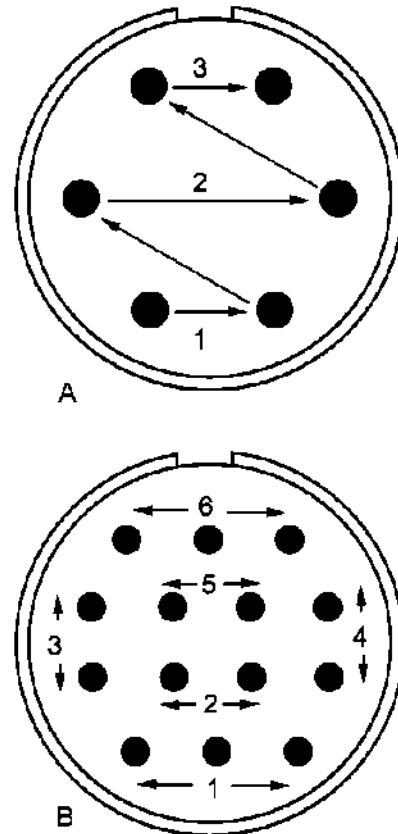

Figure 10-12 Connector Soldering Sequence
21. Follow a rigid sequence in soldering wires to a connector. This helps avoid errors in wiring and also prevents burning or scorching the insulation of wires already soldered. Two useful sequences are shown in Figure 10-12.
- a. The soldering of the connector in Figure 10-12 detail "A" is started at the right or left lower edge, depending on whether the technician is left or right-handed, and follows the bottom row across. The row above is next and is done in the same direction as the bottom row. This will permit the insert to cool between soldering operation. The operation is repeated for each row in sequence until all contacts are soldered.
- b. The sequence for the connector shown in Figure 10-12 detail "B" also starts with the bottom row from the right or left. The next step is to solder to the centre contacts working out to each edge. The final operation is to solder wires to the top row of contacts.